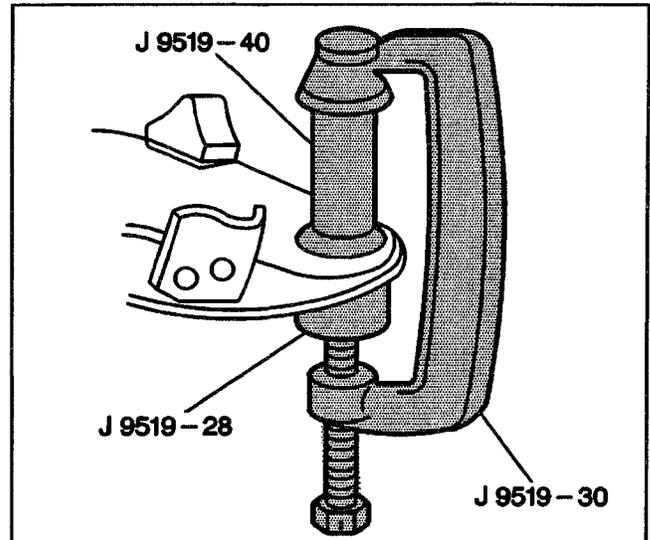

Figure 15—Removing the Lower Ball Joint
5. Lower ball joint (69) from the lower control arm.
- Use tools as shown in (Figure 15).